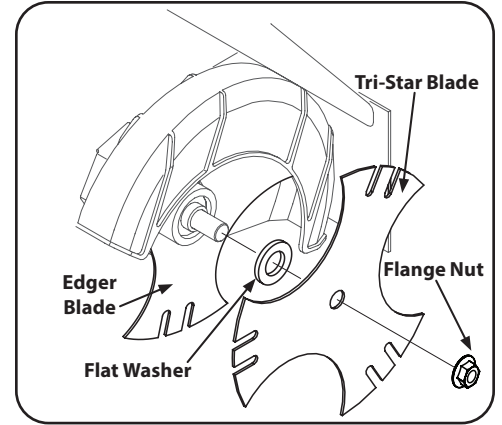

Figure 6
- Use two wrenches (one wrench to prevent the hex bolt head from spinning and the other to remove the flange nut that secures the edger blade, leaving the edger blade in place. See Figure 6.